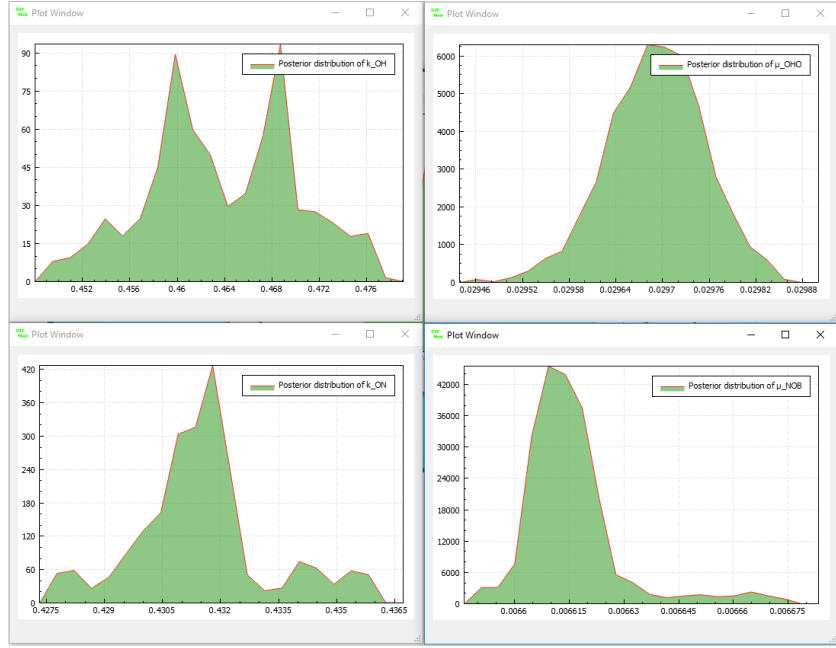
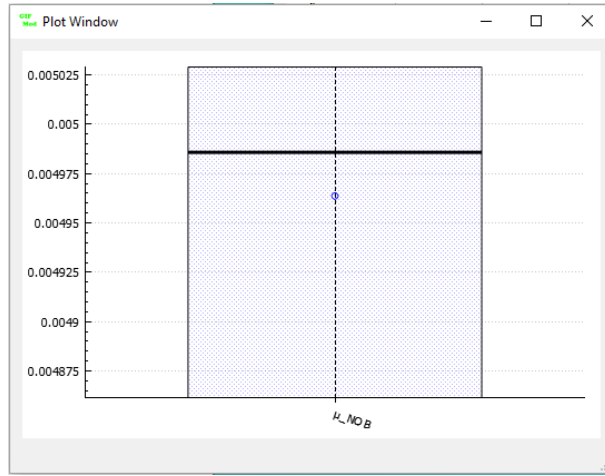

Figure 5.8: Posterior distribution of k_{OH} , μ_{OHO} , k_{ON} , μ_{NOB}
Figure 5.9: Posterior credible interval for
- From **Project Explorer**→**Inverse Modeling**→**Parameters** right-click on μ_{NOB} and select **Plot posterior distribution histogram**. A graph will appear that shows the posterior distribution of parameter μ_{NOB} (Figure 5.8). Similarly inspect the posterior distribution for other parameters. (Figure 5.9). In this figure the box plot shows the